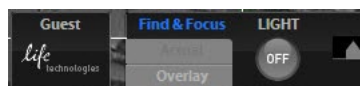

Figure 24 Login Button (set to Guest profile)
2. Be sure you are logged in under your own EVOS® user ID. The current user ID is displayed above the Life Technologies logo in the bottom left corner of the screen (Figure 24). See “Logging onto the Network” (page 31) for more information.